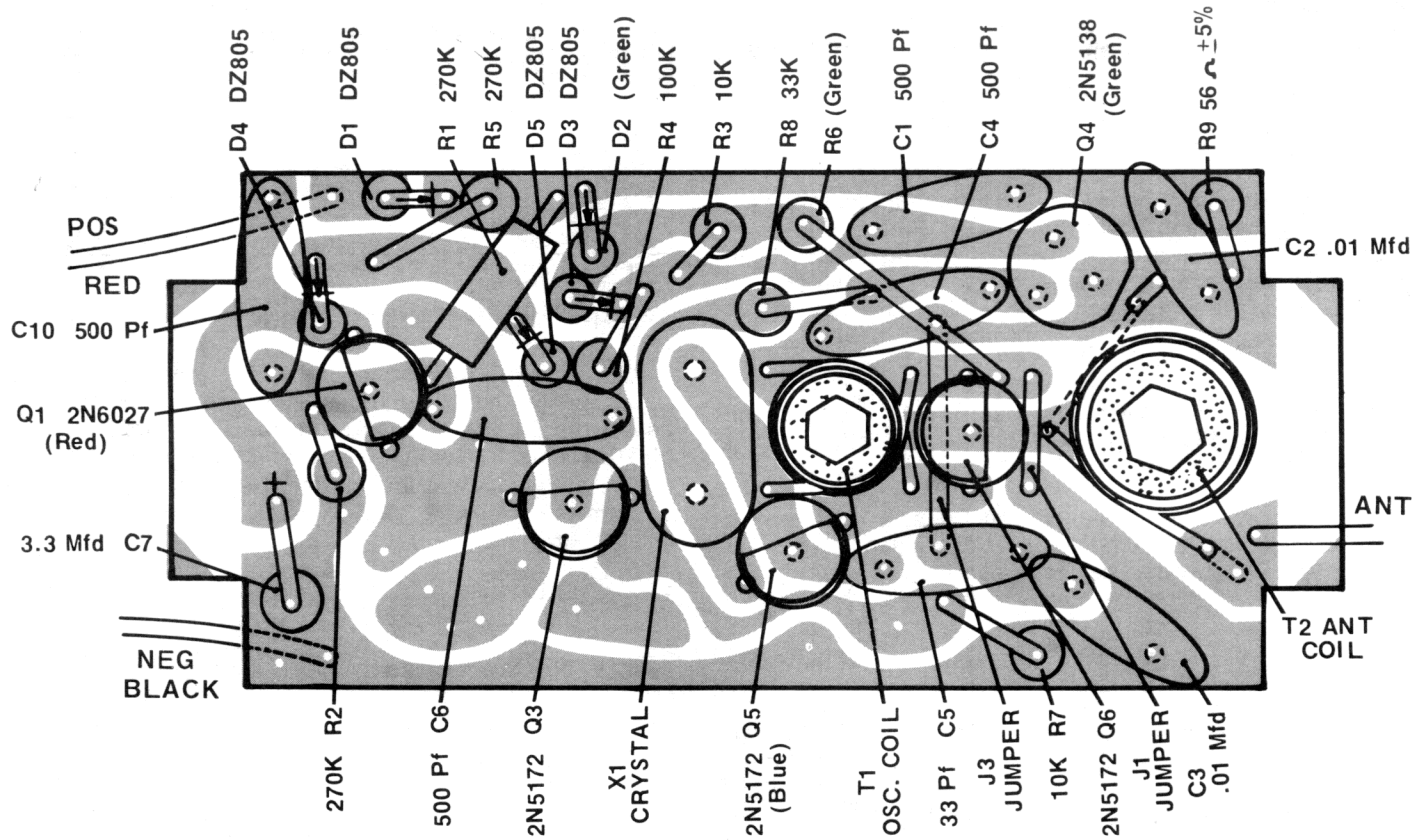

FIG. 1 PC BOARD (ROCKET-FINDER MODE), COMPONENT SIDE
Refer to Figures 1 and 2 as you complete the following steps. Note that each identifier line in Figure 1 ends at a dot which is located on the body of the respective component. Place a check mark in the () provided as you complete each step. In each case, when the instruction calls for the installation of a component, several additional instructions are implied:
- (a) The component must be installed in the position shown in Figures 1 and 2 on the side of the board opposite the copper foil lands.
- (c) The component must be oriented as shown in Figure 1. In cases where the illustration is insufficient to identify polarity, etc., the instruction will include the additional information. Be careful to insert transistors with the flat surface oriented as shown in Figures 1 and 2.
2. () Install D5 (a DZ805 diode). Orient as shown in Figures 1 and 2 with the banded (cathode) end toward the PC board.
4. () Install D3 (a DZ805 diode). Orient as shown in Figures 1 and 2 with the banded (cathode) end away from the PC board. Be sure to solder both brass eyelets securely to the copper lands. Solder the top lead of R4 and the top lead of D3 simultaneously.
5. () Install D2 (a DZ805 diode with green marking on the (anode) lead). Orient as shown in Figures 1 and 2 with the banded (cathode) end toward the PC board. Leave the top lead unsoldered until R1 has been inserted.
8. () Install D1 (a DZ805 diode). Orient as shown in Figures 1 and 2 with the banded (cathode) end away from the PC board.
9. () Install D4 (a DZ805 diode). Orient as shown in Figures 1 and 2 with the banded (cathode) end toward the PC board.
15. () Install C7 (a 3.3 mfd tantalum capacitor). This device, which resembles a miniature tin can, has a lead on each end and is marked 3.3 M. Orient as shown in Figures 1 and 2 with the positive end (marked with red or a + sign) away from the PC board. Be sure to solder both brass eyelets securely to the copper lands.
19. () Install Q4 (a 2N5138 transistor with green top). Be sure to orient the flat surface as shown in Figure 1.
32. () Connect the 30-inch piece of antenna wire to the point marked "ANT" in Figure 1. First, strip the
41. () Strip the insulation from the ends of the red and black wires to a length about 1/16 inch short of the holes marked "RED-POS" and "BLACK-NEG", respectively, in Figure 1.